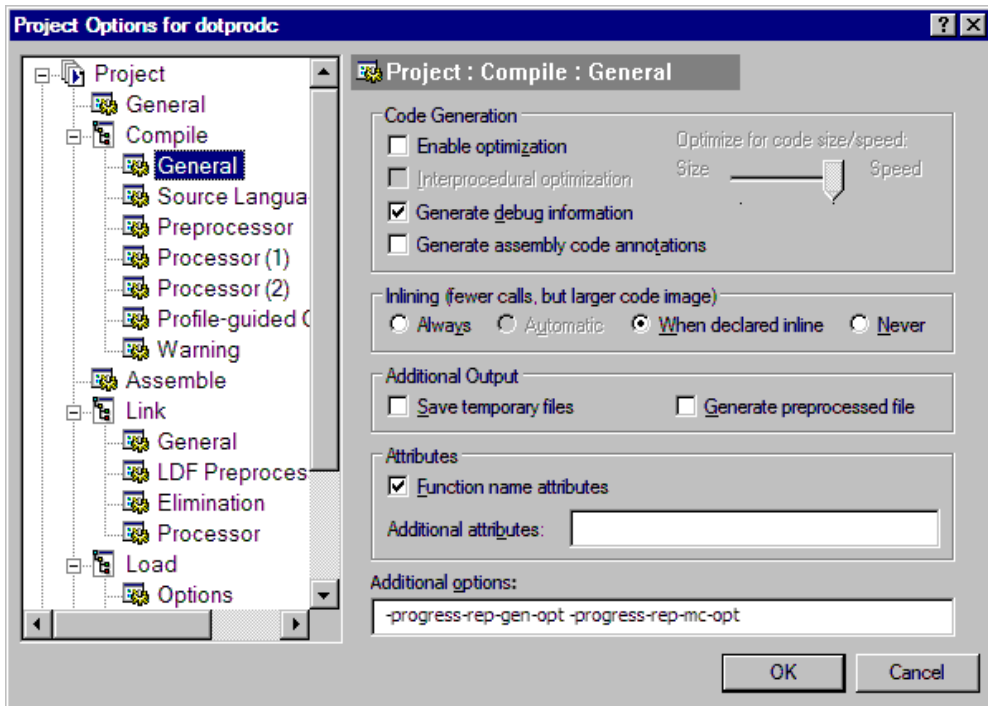

Figure 2-13. Project Options Dialog Box – Compile Page
11. Click the **Compile** tab to display the **General** page, shown in Figure 2-13.